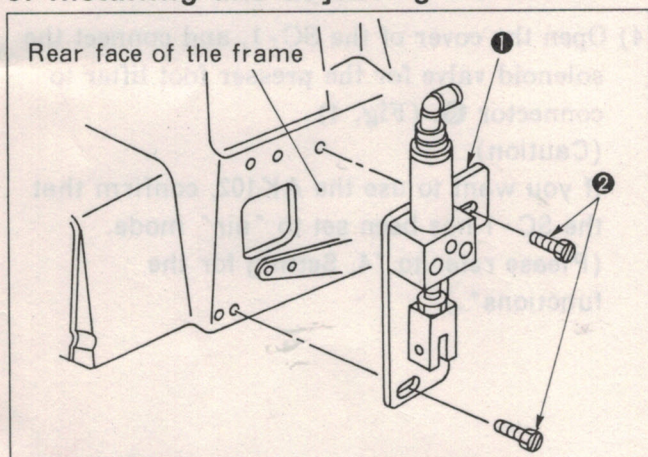

Fig. 1
- (1) Fix presser foot lifting cylinder (asm.) ① on the rear face of the frame by tightening two screws ②. (Fig. 1)